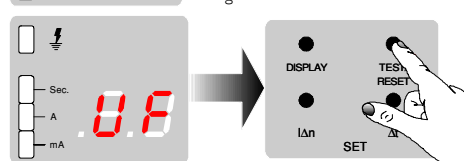

Fig. 5
- If the applied supply voltage is <70% of Un (typical), the unit will not operate and the display shows the following characters as in Fig.5. During this condition and assuming the supply is also >50% of Un, the lamp connected to the fault level output will flash. After the correct voltage has been established, the unit will revert to normal operation.